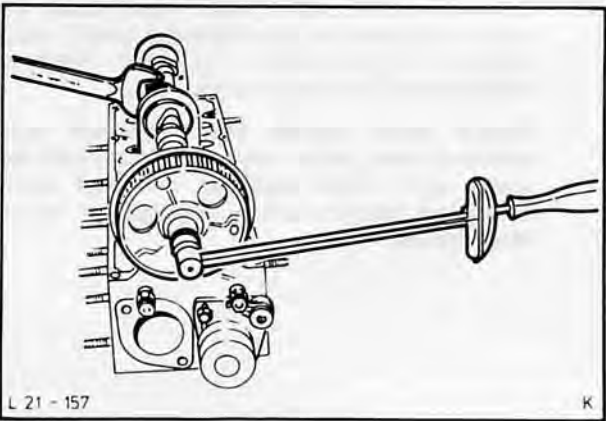

Fig. 162. Tighten camshaft pulley bolt to specified torque
18. Fit camshaft pulley thrust washer with reinforced side facing outward. Torque bolt as specified in Technical Data, holding camshaft in position with open-ended spanner, Fig. 162.